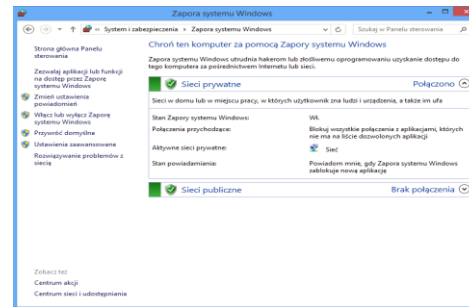

Fig. 37 Windows 7/8 Firewall set up window
2. Press "Windows system Firewall" (Fig. 37)